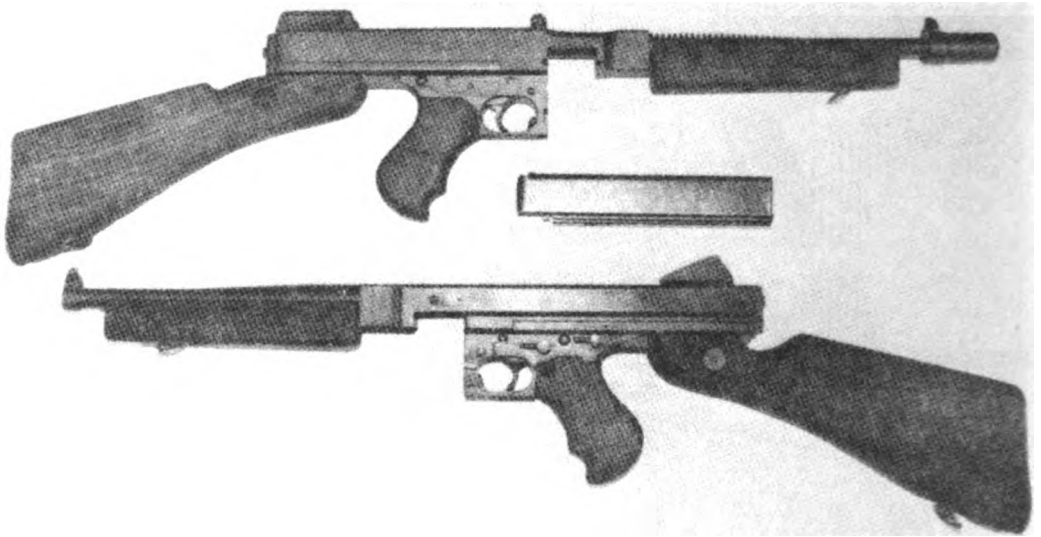

Figure 6
6. Identify the M1A1. (See fig. 6.)